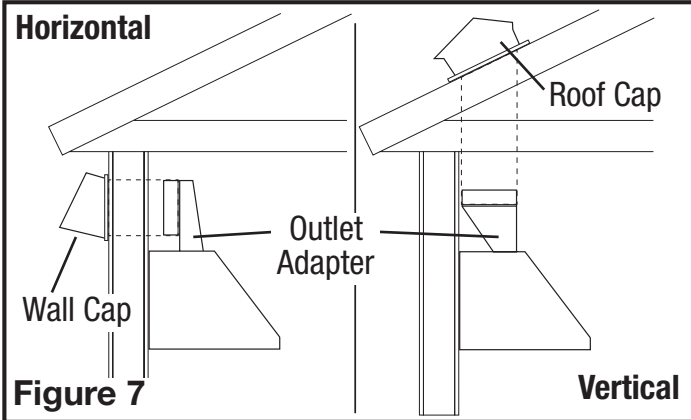

Figure 7
- Determine the type of ducting you will require (Figure 7).